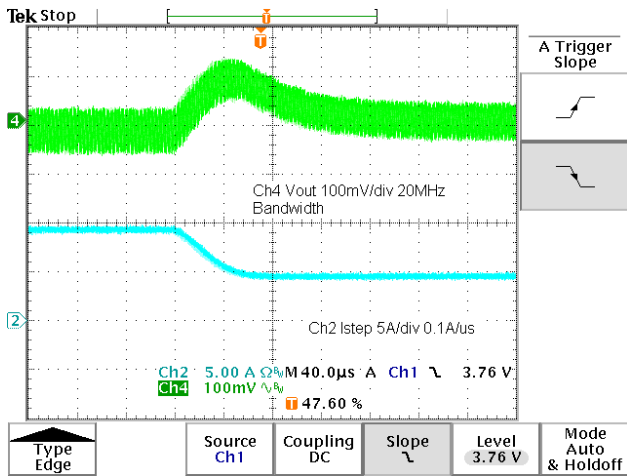

Figure 11 Transient Response 50%-25% 0.1A/us (Ch2 = Iout 5A/div Ch4 = Vout 100mV/div AC)
- 6.4. Change the trigger slope on the oscilloscope and repeat the test to capture the 50%-25% step results. The plot should look like that shown in Figure 11.